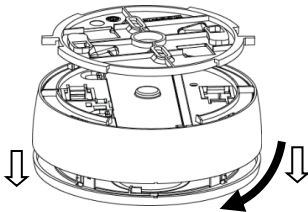

Figure 13
1. Remove the detector from the mounting bracket by rotating the detector counterclockwise (see Figure 13).